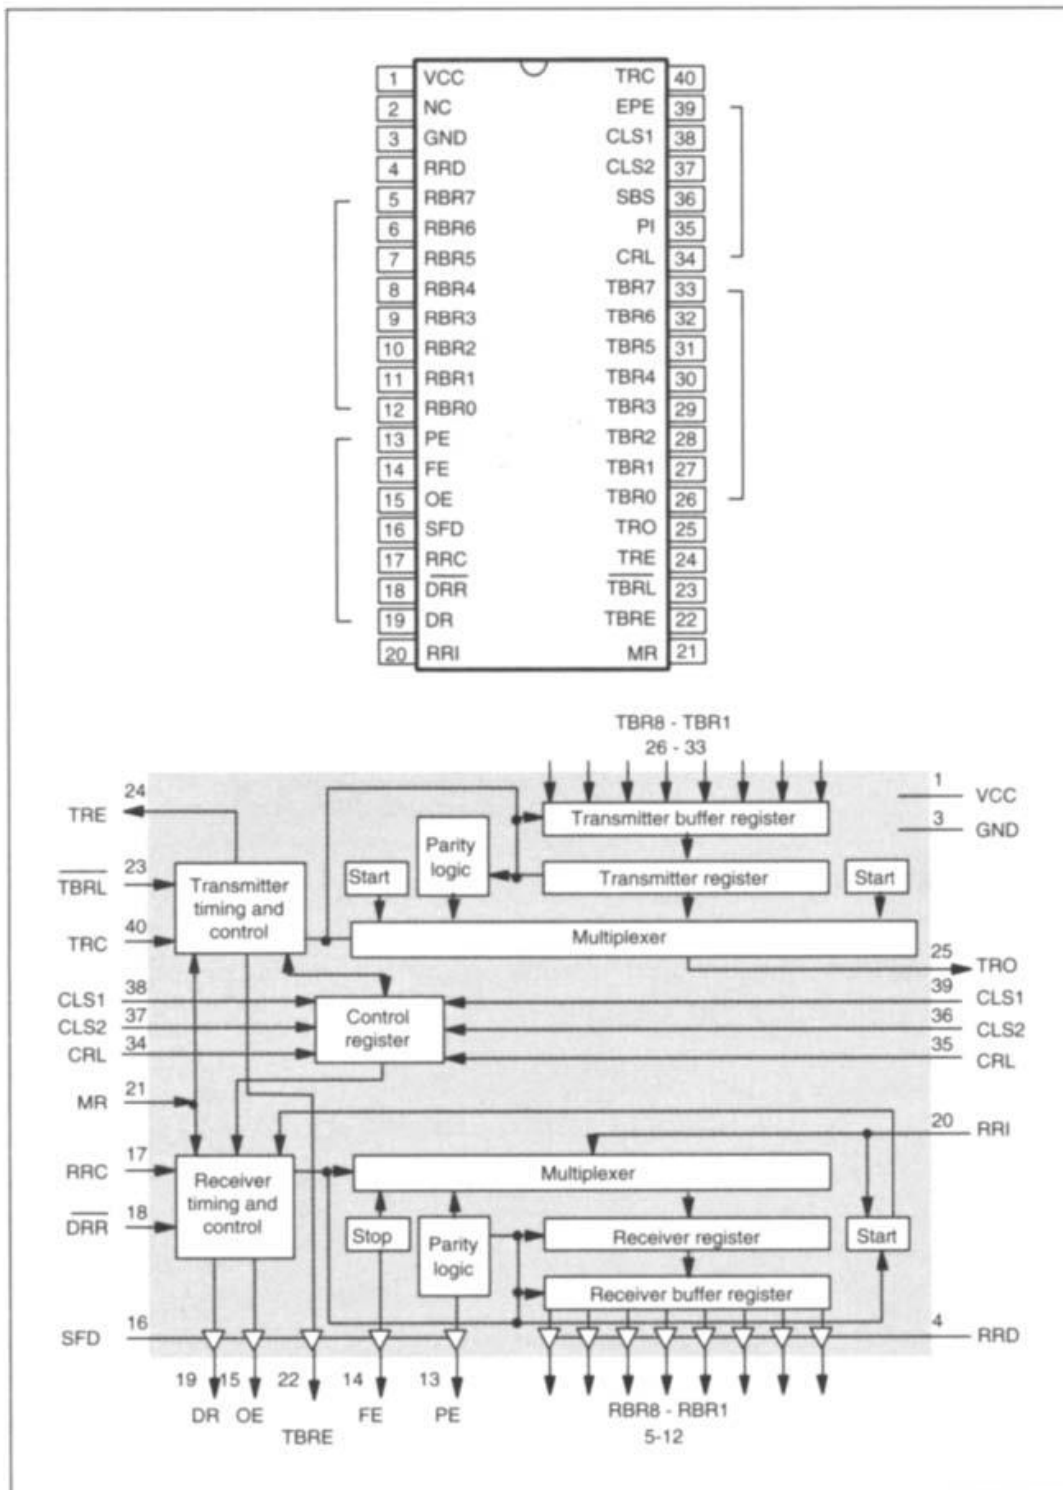

Figure 4.8 Pin-out and internal block diagram of the 6402 UART
The CDP6402 is a Universal Asynchronous Receiver/Transmitter for interfacing to asynchronous serial data channels. Serial data format is programmable. It can have 5, 6, 7, or 8 bit length. The parity check can be odd, even or none. Stop bits can be 1, 1.5 or 2. The IC requires a power supply voltage 4 to 10 volts. The pin-out and the internal block diagram are shown in Figure 4.8. Pin 21 is the Master Reset (MR), which should be at the logic low state in normal operations. Pins 35 through 39 control the serial data format. To enable the control pins, pin 34 (Control Register Load, CRL) must be at logic high. A high level on pin 35 (Parity Inhibit, PI) inhibits parity generation and check. It also forces the Parity Error (PE, pin 13) pin to stay low. When PI is low, a high level on Even Parity Enable (EPE, pin 39) selects even parity. A low level on EPE pin selects odd parity. Pin 36 (Stop Bit Select) high selects 1.5 stop bits for 5 character format and 2 stop bits for other data lengths. If it is low, 1 stop bit is selected. Pins 37 (Character Length Selected, CLS2) and 38 (CLS1) select the data length: CLS1=0, CLS2=0 for 5 bits; CLS1=1, CLS2=0 for 6; CLS1=0, CLS2=1 for 7 and CLS1=1 and CLS2=1 for 8.